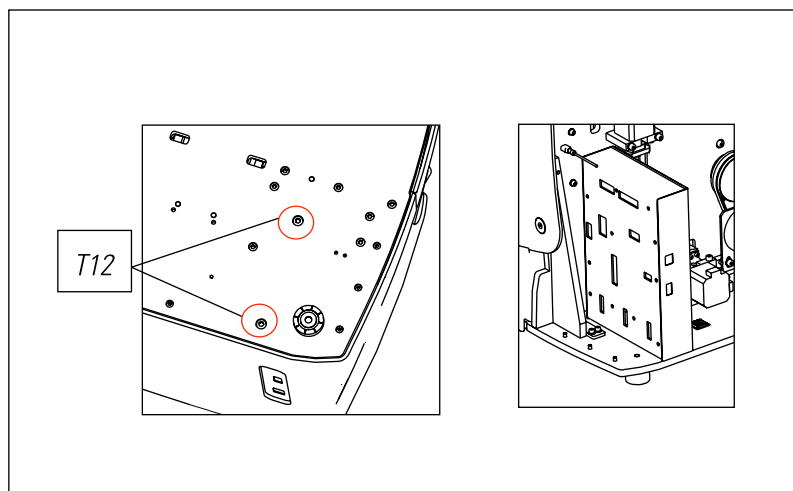

FIG. 29
- 3) Release the two screws (T12) with a 5mm Allen key (Fig. 29)